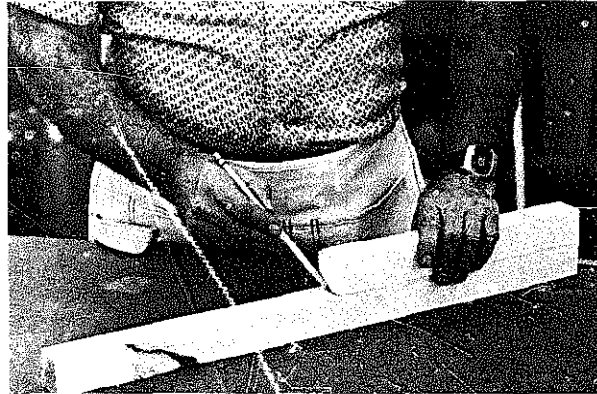

Fig. 4-60 Using an actual part to mark duplicate parts
2. When marking duplicate parts with an actual part (figure 4-60) use the same piece for the pattern for all layouts, thus cumulative error is avoided.